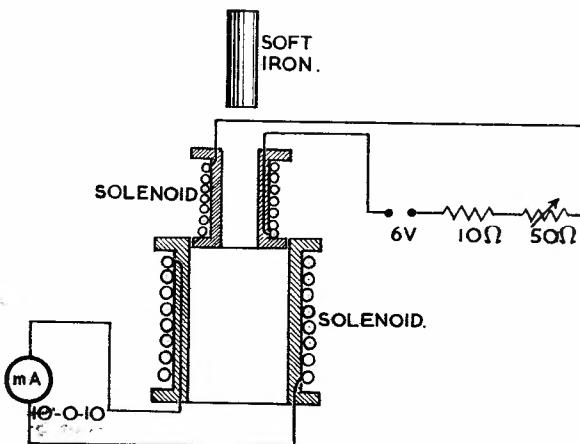

FIG. 1.
- STEP 1. Connect the circuit as shown in Fig. 1, setting the variable resistance to a midway position.